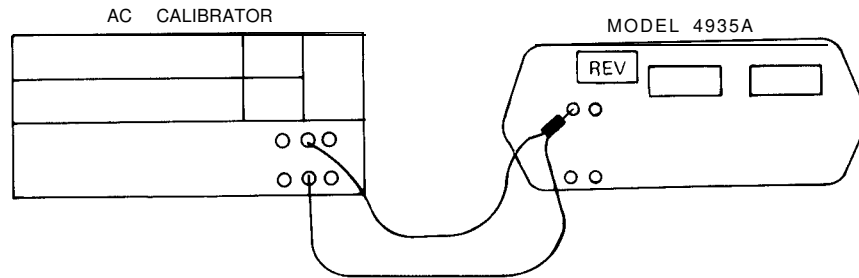

Figure 4-14. P/AR Test
- Connect equipment as shown in Figure 4-14. On 4935A select: